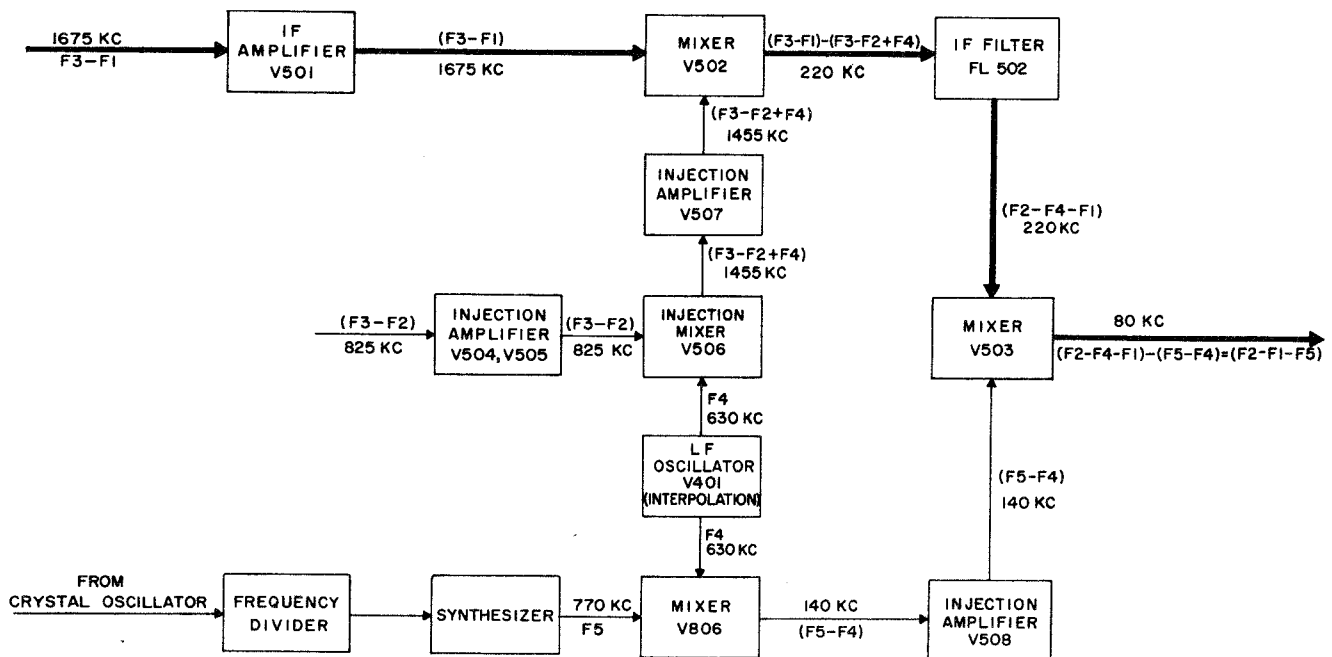

Figure 4-56. Interpolation Oscillator Drift Cancellation, Block Diagram
c. INTERPOLATION OSCILLATOR. (See figure 4-56.)—The drift-canceling loop for the interpolation oscillator parallels that of the HF oscillator except that interpolation oscillator signal F4 is mixed with an incoming signal, F_3 minus F_2 . The incoming and oscillator signals add in mixer stage V506. The sum frequency signal goes to mixer stage V502 via injection amplifier V507 and mixes with incoming signal F3
Figure 4-56 shows the frequency transfers involved in the various stages of the loop. Because of the loop, of which the interpolation oscillator is a part, any variation in oscillator output frequency from any cause is relayed to both legs of the loop. Since each leg receives the same frequency variation, the result of mixing the signals of each leg in the same mixer stage (V503) is an output signal free of frequency component F_4 . For example, if the incoming signal frequency to mixer V506